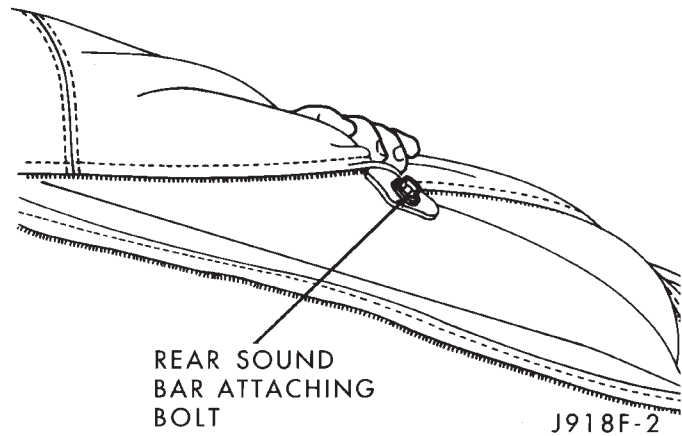

Fig. 4 Rear Sound Bar Attaching Bolt
(4) Remove bolts attaching the sound bar brackets to the sport bar (located on the rear of the sport bar) (Fig. 4). Slip brackets through the sport bar cover.